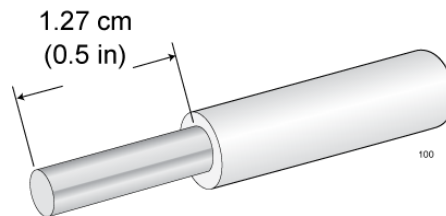

Figure 29. Stripping the Grounding Wire
1. Prepare an adequate length of stranded grounding wire (10 AWG) for the ground connection by stripping it as shown in Figure 29.